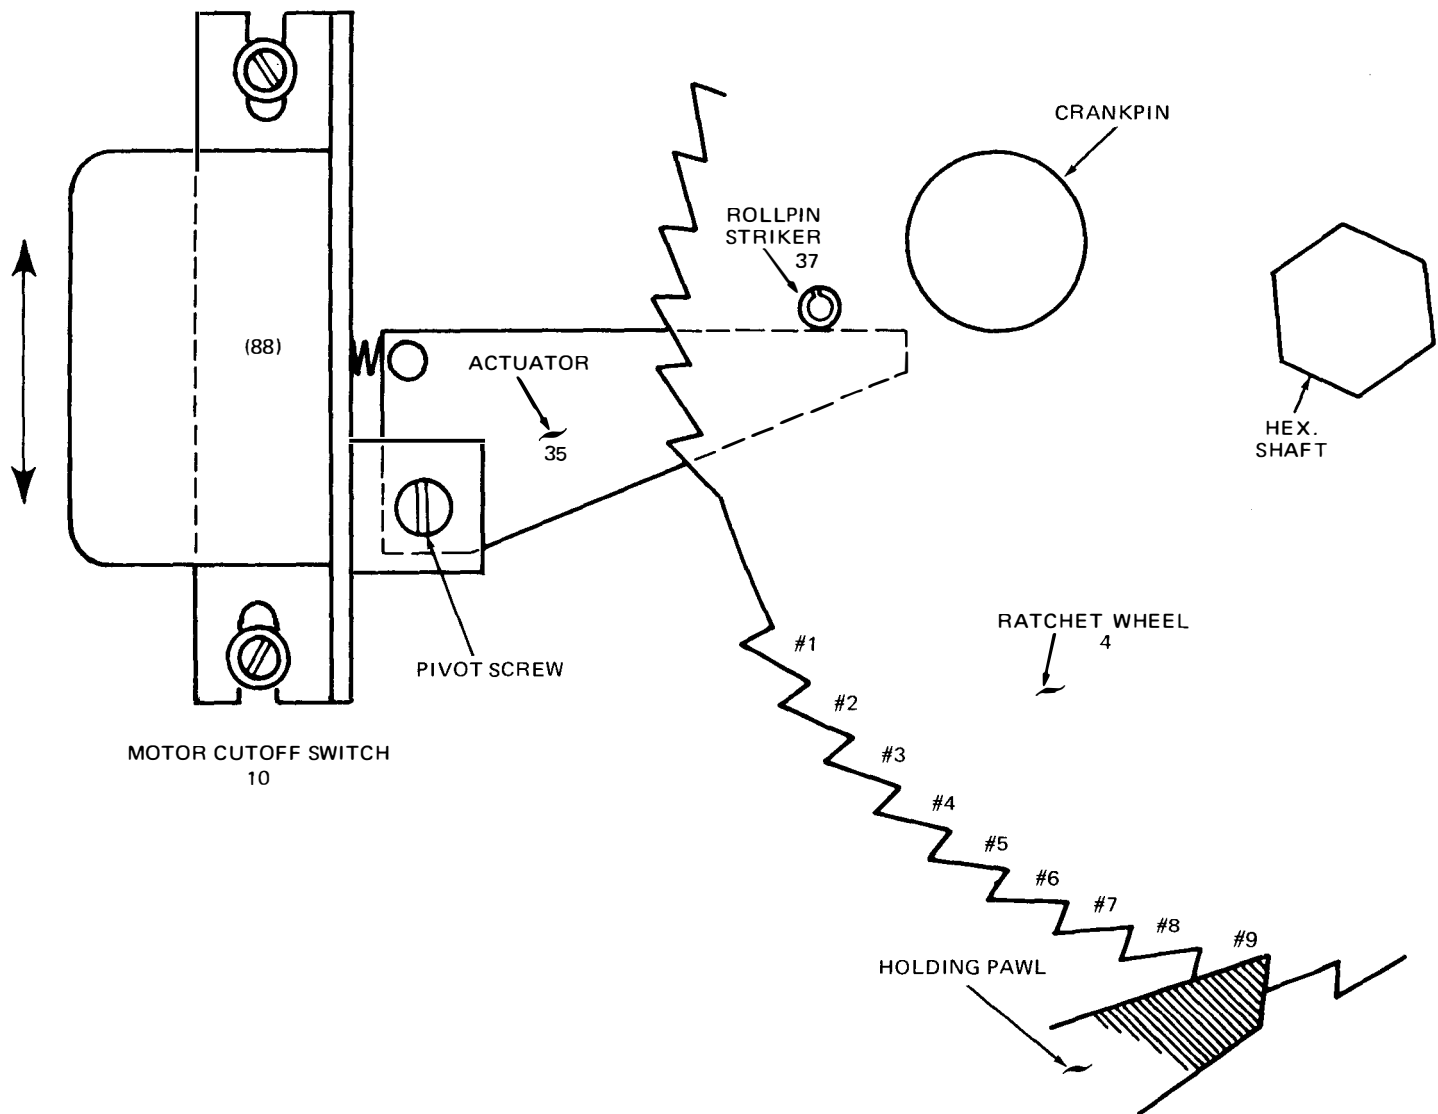

Fig. 15 — Motor Cutoff Switch
Motor Cutoff Switch — The MCO motor control switch assembly (Fig. 15) is factory adjusted. If it should become inoperative, entire unit must be removed and inspected for contact wear. Replacement may be necessary.
Advance ratchet and cam assemblies to position shown (Fig. 15). The holding pawl must occupy the ninth (9) tooth position on the ratchet as counted counterclockwise from "area" on ratchet periphery which lacks two teeth.